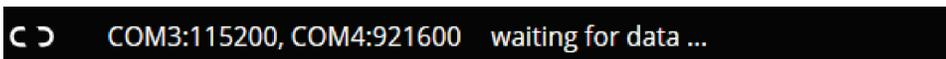

Figure 4. COM Port Status When Correct Ports Are Configured
4. At this point, the app automatically tries to connect to the target (mmWave Sensor), see Figure 4.